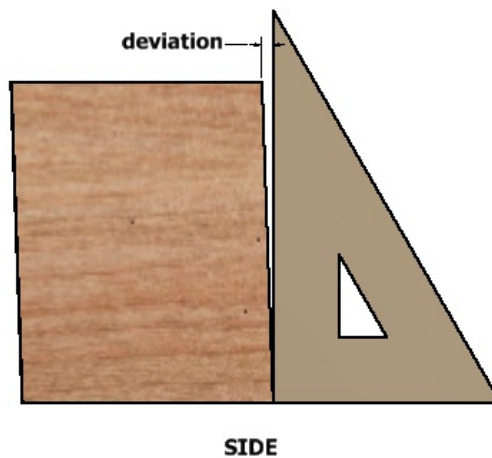

Figure 2
5.2.1 For side squareness, place the box on the flat surface such that the deviation from square is apparent with a line of sight to the side view as in Figure 2.